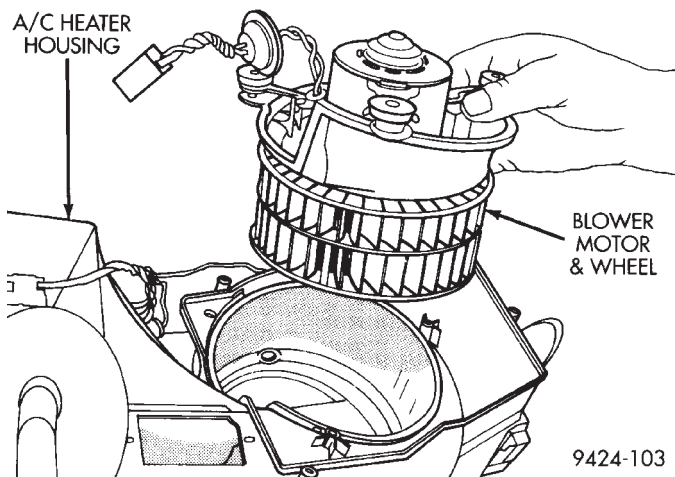

Fig. 65 Blower Motor Removal
(10) Remove screws at blower motor mounts. Remove motor (Fig. 65).